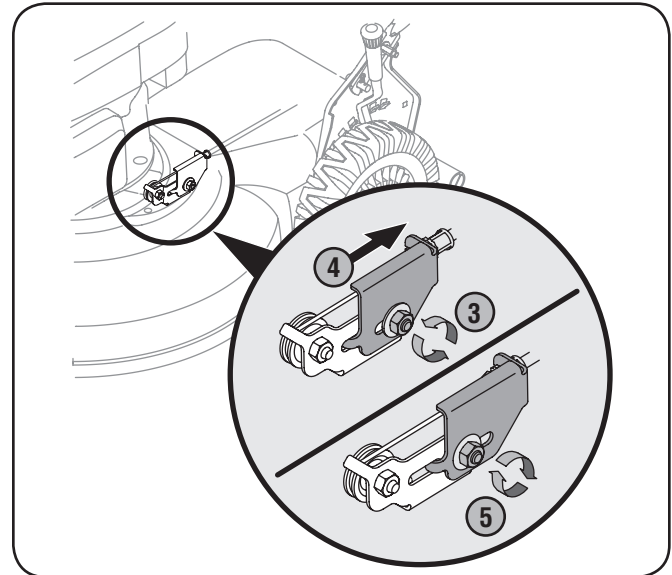

Figure 6-3
Periodic adjustment of the six speed shift cable may be necessary due to normal wear on the cable. Adjustment is needed if all six speeds do not work. The adjustable cable bracket is located on the left side of the mower beside the engine. See Fig. 6-3.
3. Loosen hex nut which secures the adjustable cable bracket. See Fig. 6-3.